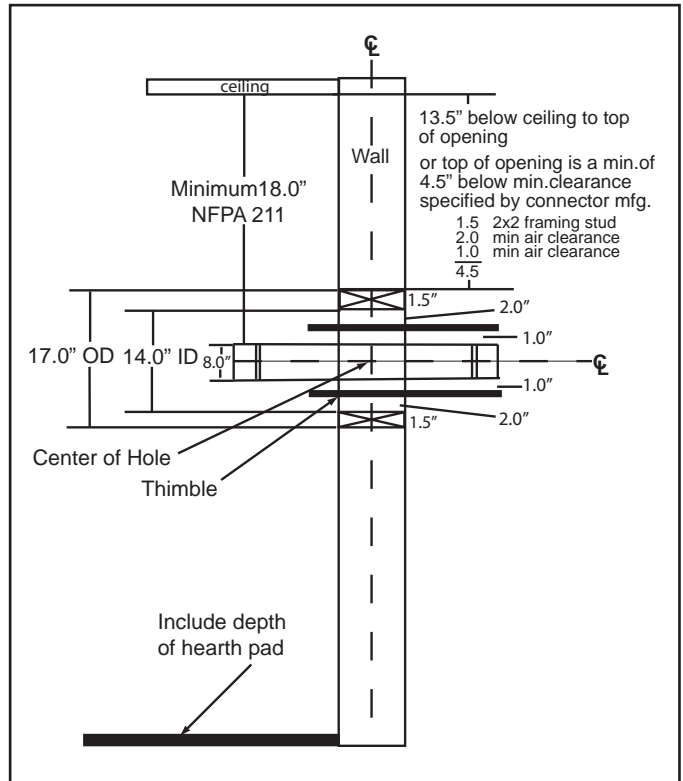

Figure 15.1
- Top of wall opening is a minimum of 13-1/2 inches (343mm) from ceiling or 4-1/2 inches (114mm) below minimum clearance specified by chimney connector manufacturer. NFPA 211 minimum vertical clearance of 18 inches (457mm) from chimney connector and ceiling or minimum recommended by chimney connector manufacturer. **Figure 15.1.**
1. Open inside wall at proper height for the chimney connector to entry the masonry chimney. **Figure 15.1**
3. Construct a 17 inch x 17 inch (432mm x 432mm) outside dimension frame from 2 x 2 framing lumber to fit into wall opening. Inside opening of frame should be no less than 14 inch x 14 inch (356mm x 356mm). **Figure 15.1.**